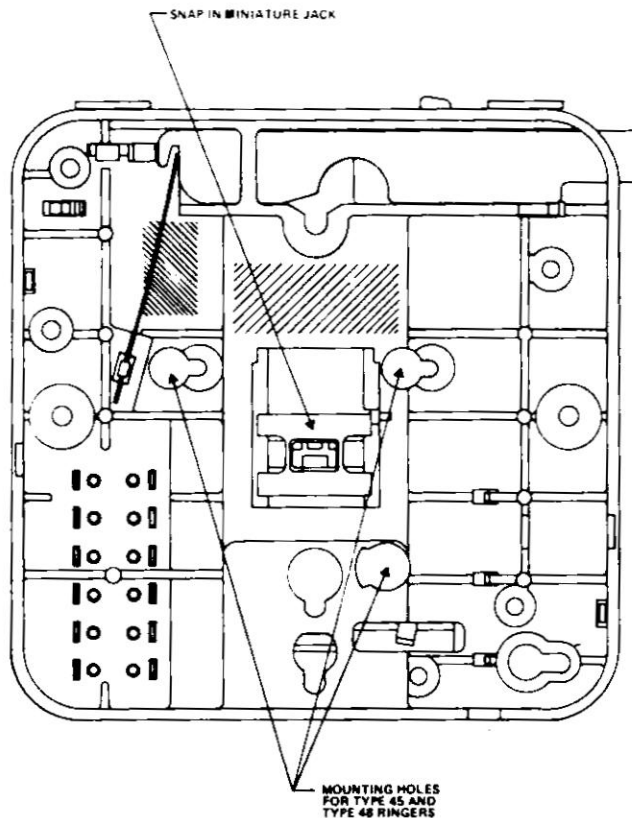

Figure 4. Ringer Box Baseplate (Underside).
2.02 The plastic baseplate is equipped and wired for use with a wall-mounted miniature jack. The modified version consists of two miniature line jacks, one miniature plug, a latch bar, and a return spring. Figure 4 shows the snap-in miniature plug that mates to a modular hardware jack that is flush-mounted on a wall.
- (a) Fasten the ringer assembly to the baseplate with the three mounting screws provided. Figure 4 shows the mounting holes for Type 45 and Type 48 ringer assemblies.